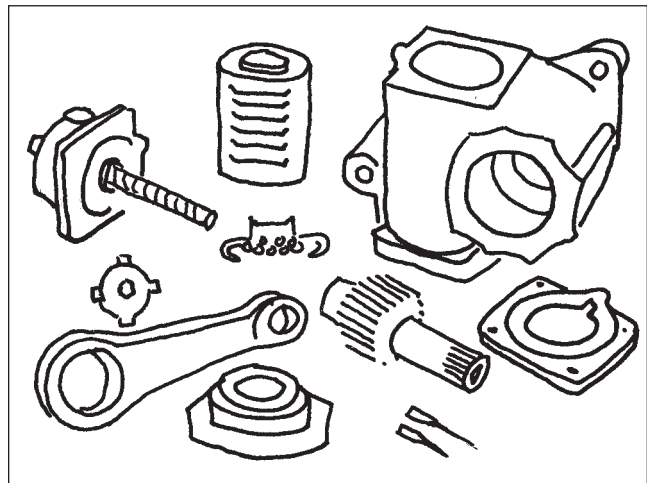

Figure 110
20. The steering gear has been disassembled. Necessary parts may be replaced as needed (Figure 110).